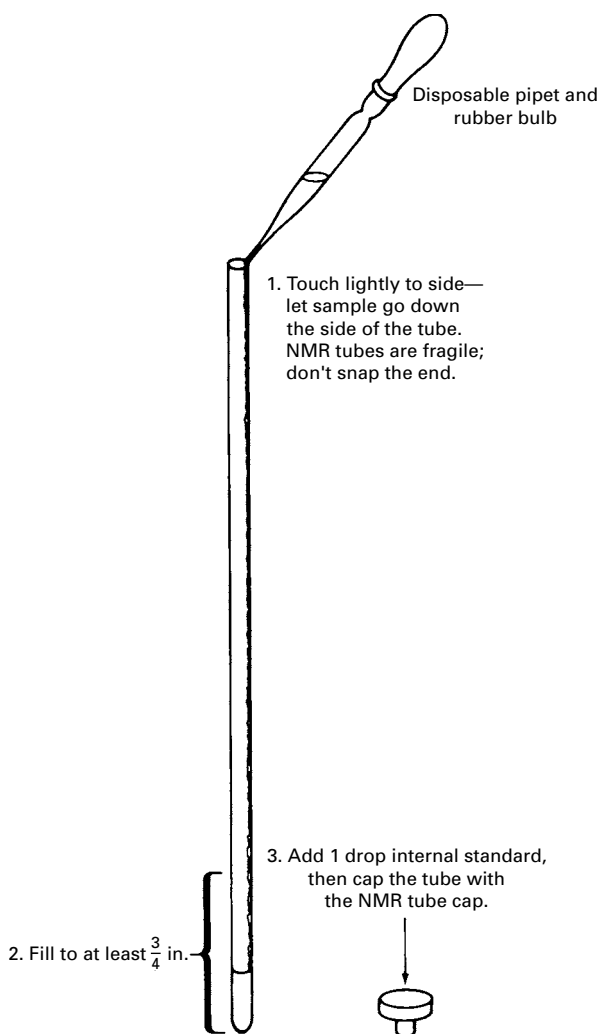

FIGURE 33.2 Loading the typical NMR tube.
1. **The NMR Sample Tube.** A typical NMR tube is about 180 mm long and 5 mm wide and runs about 5 bucks apiece for the inexpensive model adequate for 60 MHz NMR use. They also have matching color-coded designer caps (Fig. 33.2). Don't pick up and hold the tube by its color-coordinated designer cap.